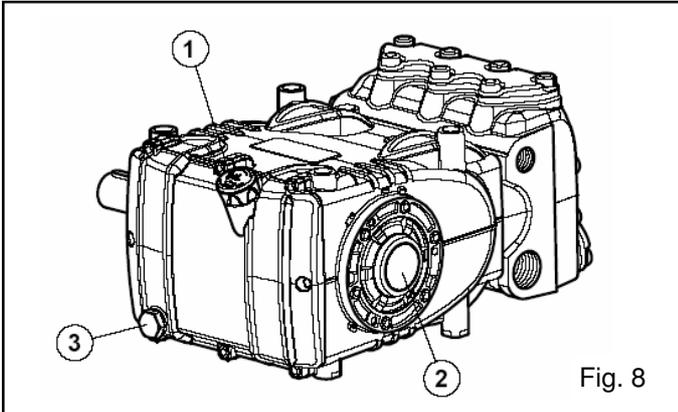

Fig. 8
Check oil level at least on a weekly basis Fig.8.
If necessary add the missing oil through the oil plug pos.1, Fig.8. Check oil level when the pump is at room temperature. When changing the oil (removing plug pos.3. Fig.8), the pump should be at its working temperature.